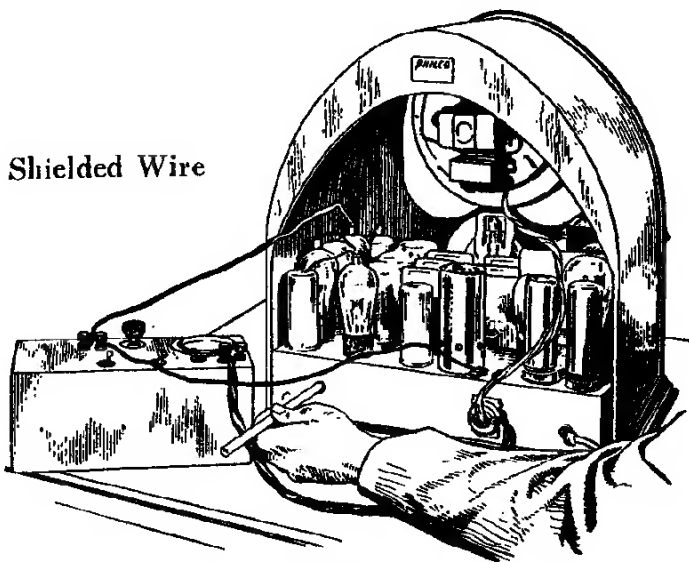

FIGURE 1
1. Make the necessary connections between the signal generator and the receiver as shown in the illustration, Fig. 1. The connections consist of (a) the ground wire to the GND. terminal of the radio set and to the GND terminal of the signal generator; (b) the ANT. terminal of the signal generator through the necessary length of shielded lead, (shielding grounded) to the grid of the first detector tube (tube shield in place and first detector grid clip removed); (c) output meter terminals to the primary of the output transformer. If more convenient, this connection can be made to the two plates of the output tubes in the case of push-pull output circuits, or to the plate and cathode in the case of a single output tube; (d) power cord of receiver to the electric power outlet, after all other connections have been completed.